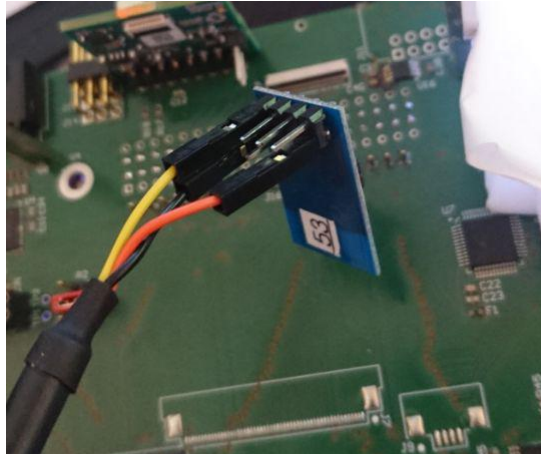

Figure 2: Connection of the USB-UART cable.
1. Connect the USB-UART cable to the module : The **GND** (black) on the pin1, the **Rx** (yellow) on the **Tx** and the **Tx** (Orange) on the **Rx** of the module. see figure 2.